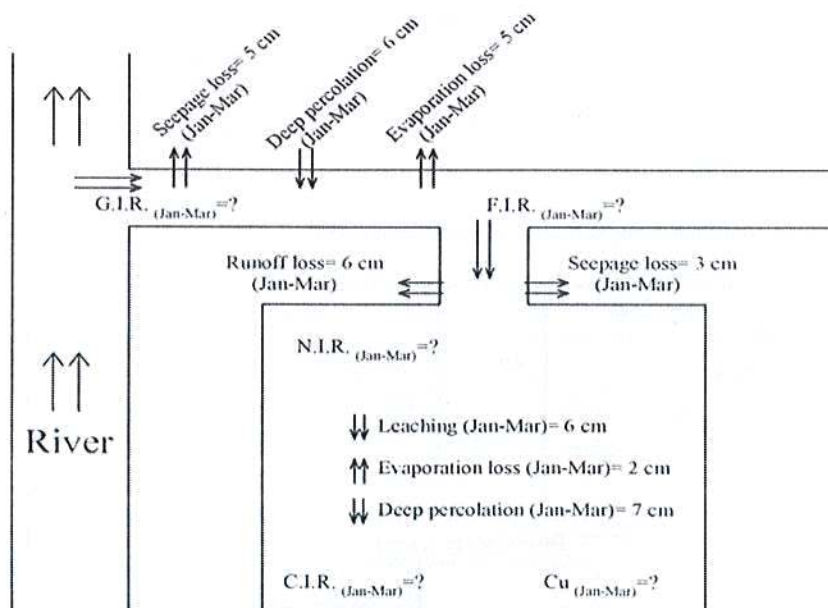

Figure 1
- b) An irrigation project located in Lalmanirhat district of Bangladesh divert surface water from Teesta river through a canal for irrigating an area of 3500 hectares, Based on the data and information provided in the **figure 1** and **table 1** below, calculate the following for the period from January to March: 14